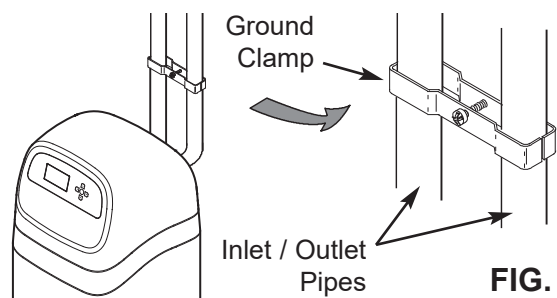

FIG. 13
- a. Use the EcoWater ground clamp kit (not included) to make a jumper across the inlet and outlet pipes (See Figure 13).